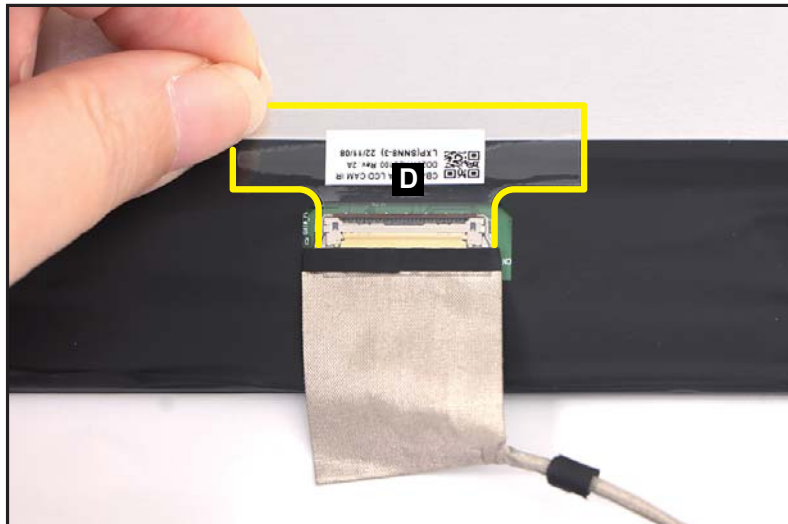

Figure 1-55. LCD Panel Removal
3. Carefully turn the LCD panel over so that the display panel is facing down on a flat surface. Then detach the mylar tape (D) securing the LVDS cable to the LCD panel (Figure 1-55).